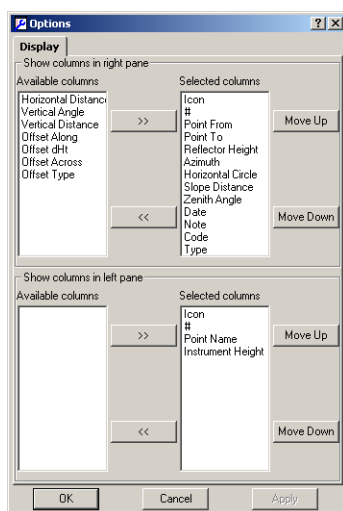

Figure 4-72. Options Window For TS Obs Tab
2. On the **Options** window (Figure 4-72) select the desired entry (icon, point from, point to, reflector height, etc.), then: